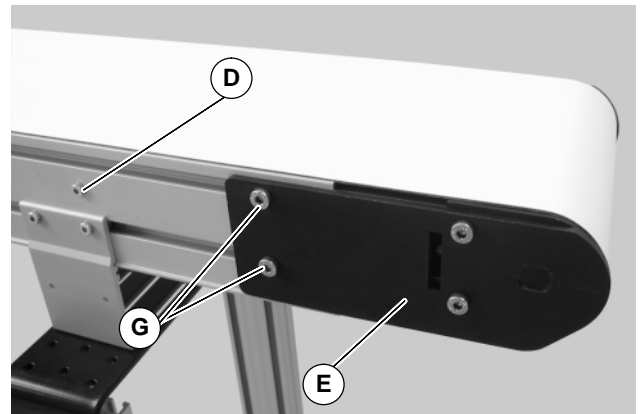
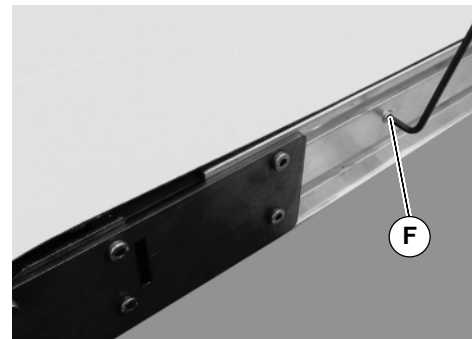

Figure 12
Figure 13
2. On tension end of the conveyor, identified by the pinion locking screw (D of Figure 12), push in head plate assembly (E): Loosen the pinion locking screw (D), adjust the pinion torque screw (F of Figure 13). On both sides of conveyor, loosen the two tail clamp bolts (G of Figure 12), and push head plate assembly (E) inward.